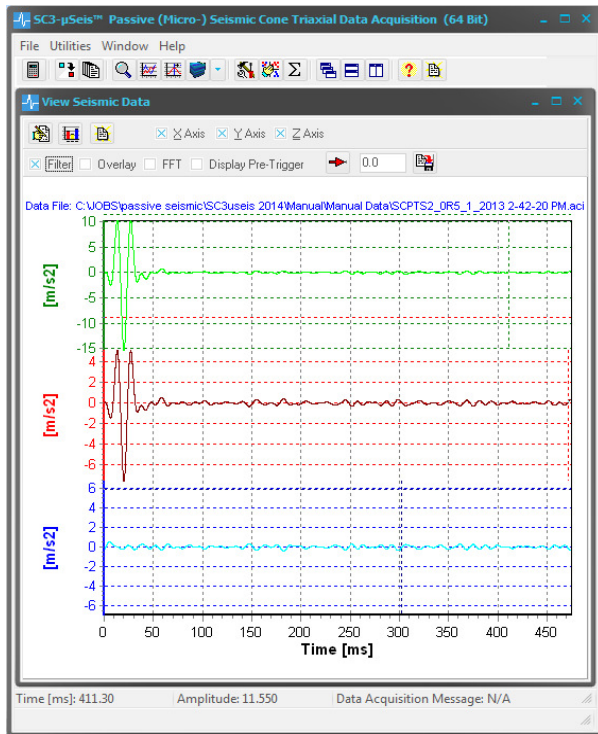
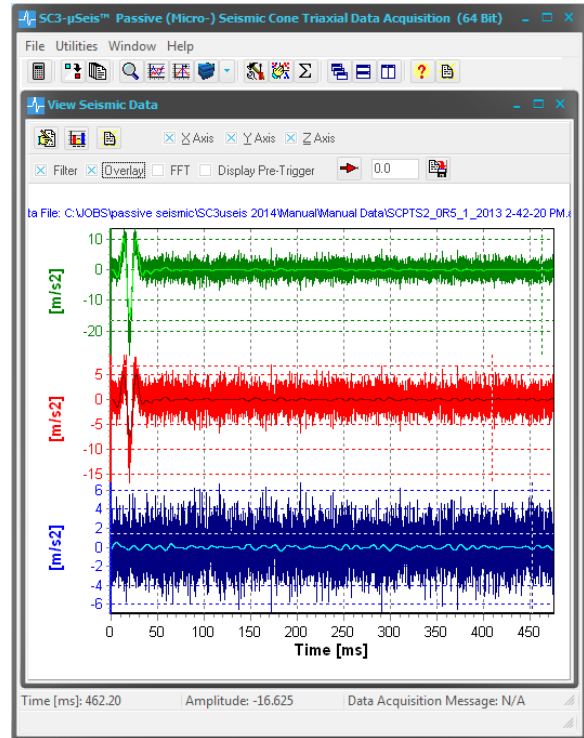
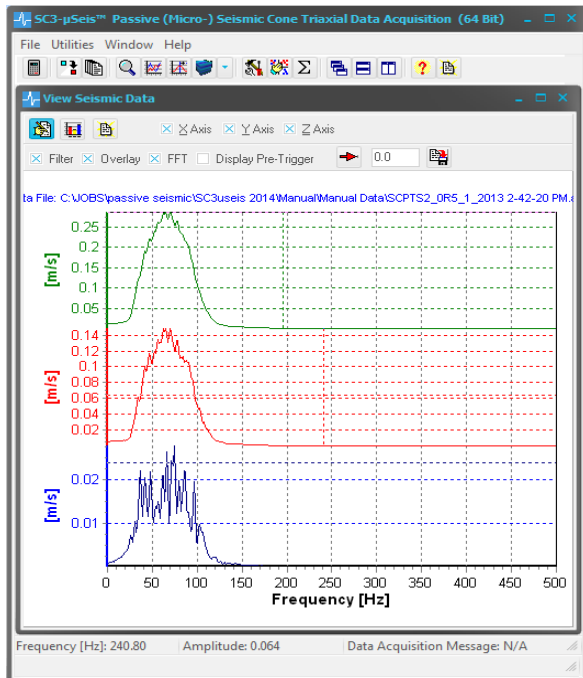
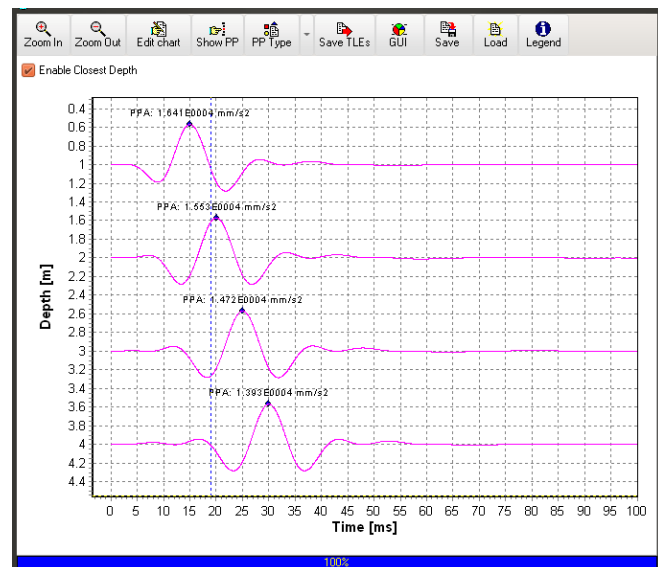

Figure 18: Filtered seismic trace in View Seismic Data software option
Figure 19: Overlaying unfiltered seismic time series onto filtered time series
Figure 20: Display of frequency spectrum of seismic time series illustrated in Figure 18
Figure 27: Display of the PPA Values for the X-Component Time Series Data
Figure 18 shows the graphical results after specifying a bandpass of 30 to 100 Hz. The user may then overlay the unfiltered seismic trace onto the filtered trace by selecting checkbox *Overlay* as illustrated in Figure 19.
The smoothed Fast Fourier Transform (FFT) of either the unfiltered or filtered seismic trace is derived and displayed by selecting checkbox *FFT*. The frequency spectrum of the filtered trace is displayed if the checkbox *Filter* is selected along with the *FFT* checkbox. Otherwise the unfiltered seismic trace's frequency spectrum is displayed. Figure 20 shows the frequency spectrum of the filtered data file shown in Figure 18.
- GUI: to open the graphical interface box shown in figure 20;
Figure 27 illustrates a Standard Display VSP of the PPA values of the data used to generate figure 18. As mentioned above, the display of these values can be enabled and disabled by toggling user interface button .